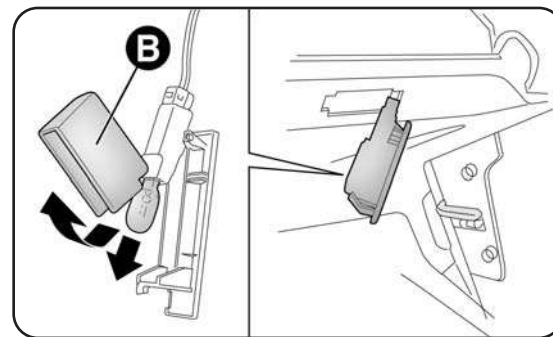

fig. 33
- open protection B - fig. 33 and replace the press-fitted bulb;